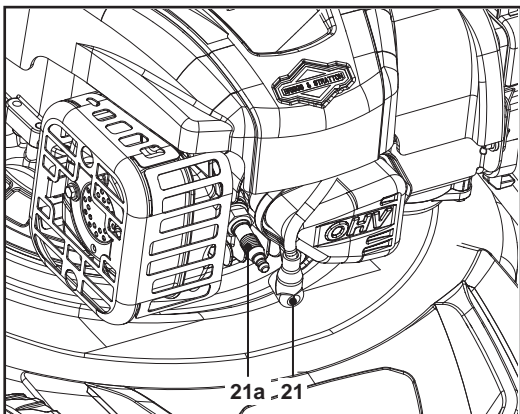

Fig. 27
1. Disconnect the spark plug connector (21) (Fig. 27).